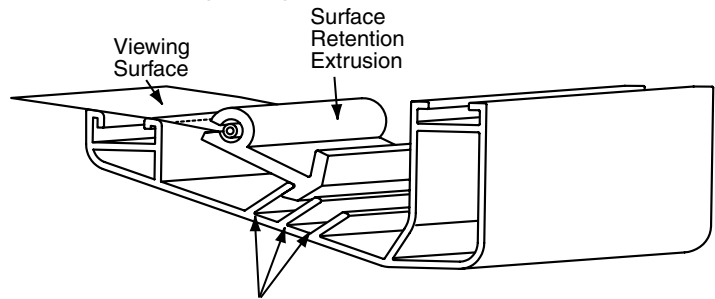

Figure 10
- ① Return frame onto clean surface, face down, and drape completed surface assembly over completed frame profile with rounded edges of surface retention extrusions visible.
- ② Hook surface retention extrusions on any side of surface to notch #1 on corresponding side of frame extrusion (see Fig. 10).